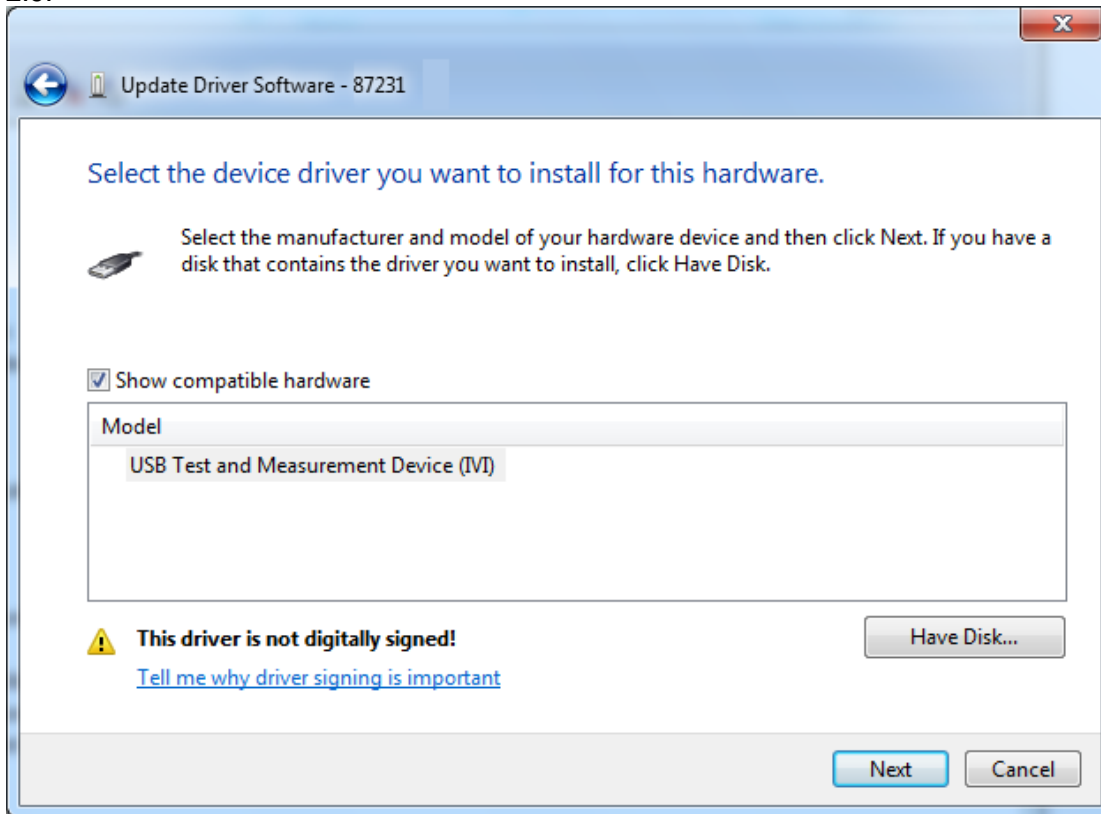

Fig. 2.9 Update Driver Software 3
Step 3: Finally select “USB Test and Measurement Device (IVI)” device and click “Next”, as shown in Fig. 2.9: